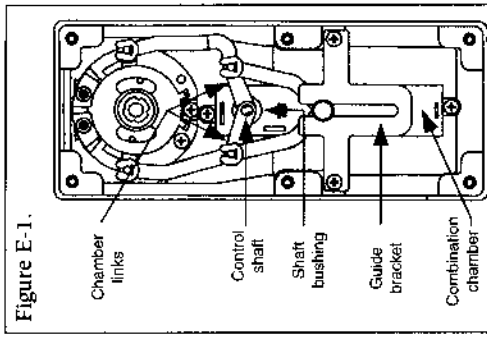

Figure E-1.
2. Lift the chamber linkage off the control shaft by prying up with a flat blade screwdriver (see Figure E-1).